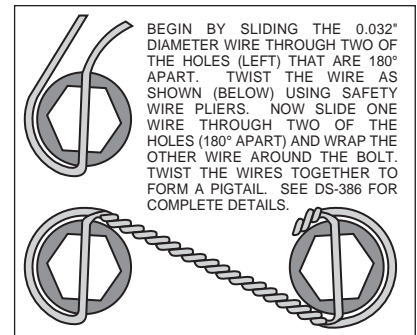

Figure 3. Safety Wire Diagram
- The caliper mount bracket assembly (1) should be installed first with clean, dry threads on the mounting bolts. Install the bracket by sliding bolt (4) through washer (2) from the back side through the lower caliper mounting ear on the spindle. Slide bolt (3) through washer (2) from a 90° degree angle on the upper portion of the steering arm. The bracket must tighten squarely against the outboard side of the caliper mount bosses on the spindle body. Inspect for interference from casting irregularities, machining ridges, burrs, etc. Later, after the caliper, pad, and rotor alignment has been checked, and any necessary shims have been put in place, the threads of the mounting bolts should be coated with red *Loctite*® 271 and torqued to 65 ft-lbs.
- Install wheel studs (5) into the hub (6). Torque to 77 ft-lb. **NOTE:** *There are two (2) five lug patterns in the hub (5 x 4.50 and 5 x 4.75).* Make sure of the correct hole pattern for the correct wheel application before installing studs into hub.
- Pack the large inner bearing cone (7) with high temperature disc brake bearing grease (available from your local auto parts store) and install into the backside of the hub (6).
- Install the grease seal (8) by pressing into the backside of the hub (6).
- Pack the small outer bearing cone (14) with high temperature disc brake bearing grease and install into front of hub (6). Slide the hub assembly (5, 6, 7, 8 and 14) onto the spindle. Secure using spindle washer (15), stock adjusting nut and nut locking device. Adjust bearing using a 12" wrench to tighten the adjusting nut while turning the rotor. When the rotor binds slightly, all the bearing parts are seated properly. Back of the nut 1/6 to 1/4 of a turn or enough to allow 0.001 to 0.007 end play. Lock the nut with a new cotter pin. **WARNING:** *Failure to back off the adjusting nut may cause the bearing to run hot and be damaged, which could cause the wheel to lock or come off during operation, creating a risk of serious bodily harm.*
- Install the o-ring (16) on the dust cap (17), and screw dust cap assembly onto the hub (6). Friction created by the o-ring (16) on the dust cap (17) keeps it from unscrewing.
- With the larger I.D. side of the rotor (9) facing away from the hat (10), bolt rotor (9) to hat(10) through the backside of the rotor using washers (11) and bolts (12). Using an alternating sequence, apply red *Loctite*® 271 to the threads and torque bolts to 155 **in-lb**. For an added measure of security, the bolts may be safety wired using standard 0.032 inch diameter stainless steel safety wire as shown in Figure 3. Please refer to Wilwood's data sheet DS-386 for complete safety wire installation instructions.
- Slide the rotor/hat assembly over the studs (5) in the hub (6) taking care to align the small countersunk holes in the hat (10) with the small threaded holes in the hub (6). Install three flat head socket head screws (13) through the small holes in the hat (10) and torque to 85 **in-lb**.